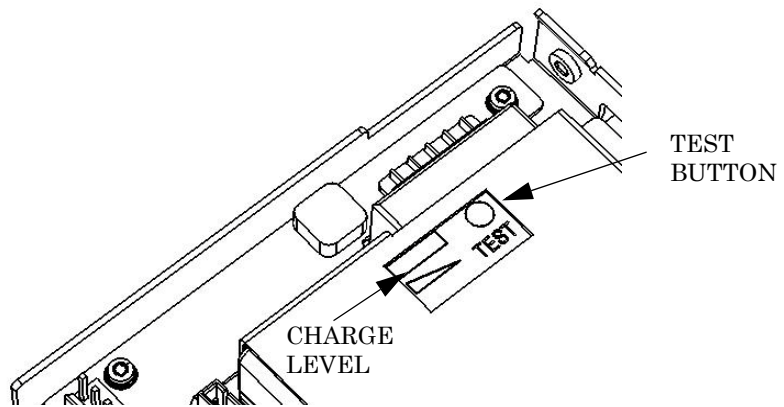

Figure 2-13. Test Button and Charge Indicator
- 7 On the Battery assembly, push and hold the white test button on the battery while observing the charge-level indicator. (See Figure 2-13). The charge level should be at least 25% to be functional. If the battery has been installed for over 24 hours with counter AC power connected the entire time, the charge level should be 75 to 100%. (Typically at least 25% after 1 hour charge.)